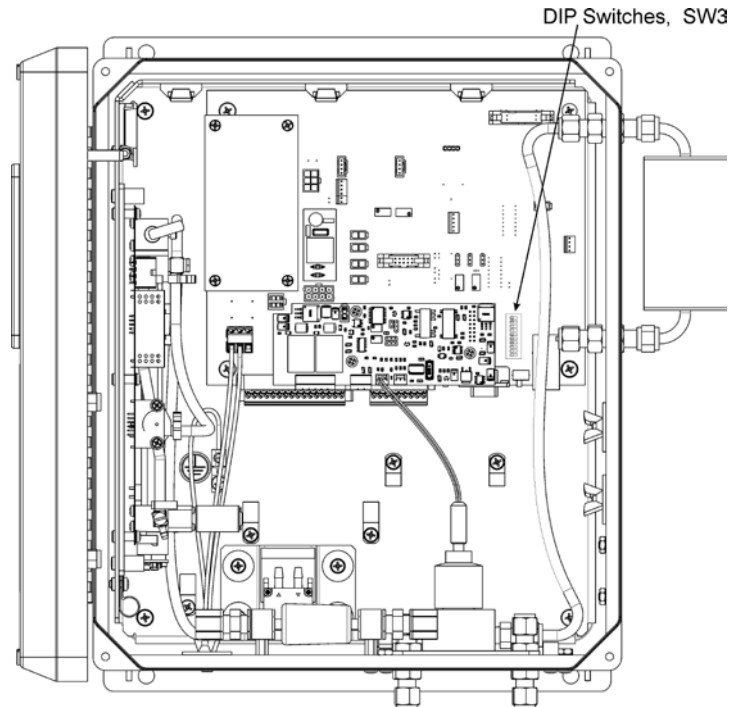

Figure 7-1: DIP Switch Location (SW3)
3. Locate the DIP switches labeled SW3 on the mainboard (Figure 7-1).